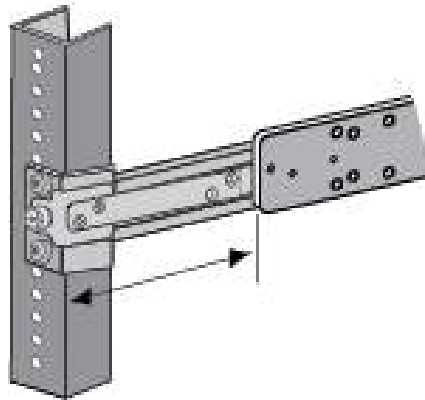

Figure 94. Verifying the Length of the Extension Bracket
5. Measure the distance from the front of the equipment rack to the front of the inner rail. Refer to Figure 94. This should approximately match the value you measured in “Measuring the Extension Bracket Lengths” on page 144.